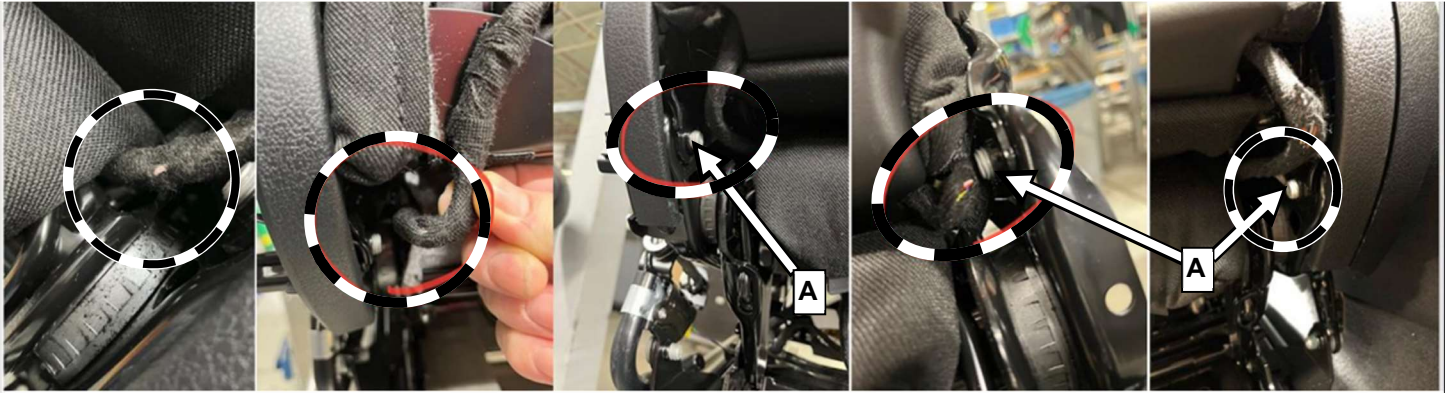

Figure 3 – NOT OK condition, shown on left and right front seats
3. Check the seat wiring harness routing on the left side of driver seat and the right of front passenger seat (outboard sides) in the area of the backrest hinge screw (Figure 3, A):
- The seat wiring harness *is* damaged (Figure 3): Perform **Work Procedures A and B**.